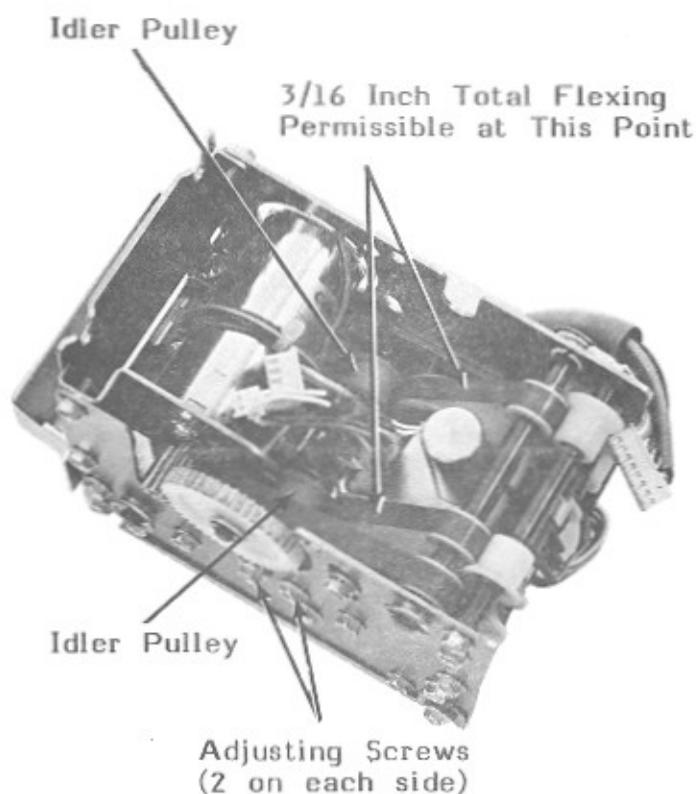

Figure 4-3. Lower Belt Adjustment
(See Figure 4-3.)
1. Loosen the four hex-head screws holding the ends of the Idler Pulley Shaft and the take-up brackets (Shown in Figure 4-3.).